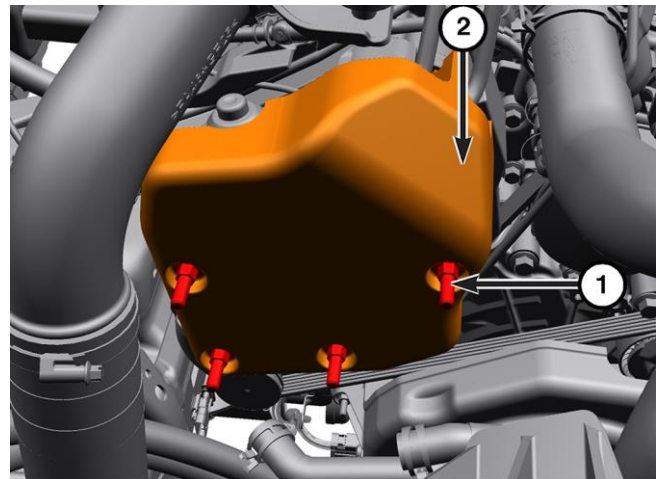

Figure 69 – HPFP Sound Proofing
3. Remove the bolts (1) securing the sound proofing (2) to the fuel injection pump (Figure 69).
22. Install the fuel injection pump cover (2) and tighten the screws (1) securely (Figure 69).